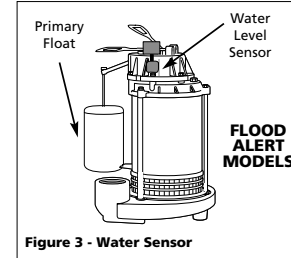

Figure 3 - Water Sensor
- Alarm activates when water raises the water level sensor (See Figure 3).